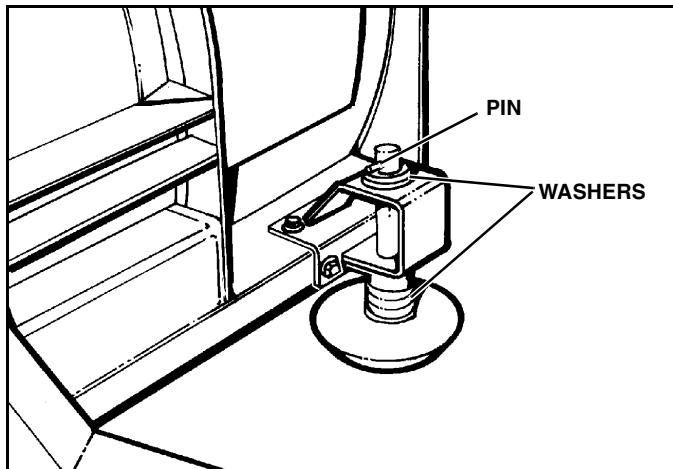

Figure 2-4
14. Adjust each disk shoe assembly by removing disk shoe mounting pin and adding or subtracting washers on the top or bottom of the disk shoe mounting bracket as required according to measurements taken in step #11 (See Figure 2-4)